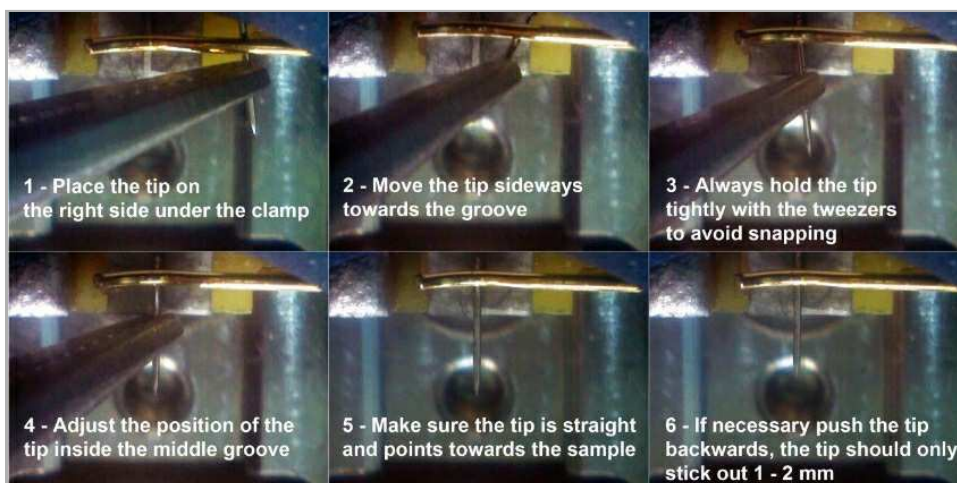

Fig. 5: Step by step pictures of the tip mounting.
- Put the tip wire underneath the clamp on the tip holder (A), parallel to the groove and push it all the way to the end. Move the tip wire sideways until it is in the groove and held securely under the clamp (B).
- It should stick out about 1-2 mm beyond the tip holder. See also Fig. 5 for step-by-step pictures.